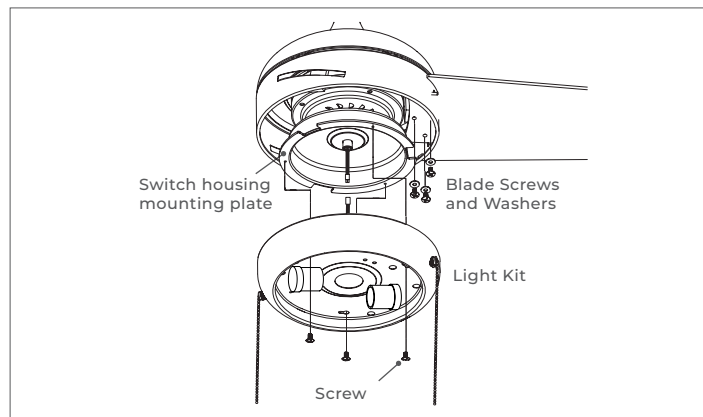

FIGURE 4
A) Remove three screws from light kit and lift light kit aside (Figure 4).